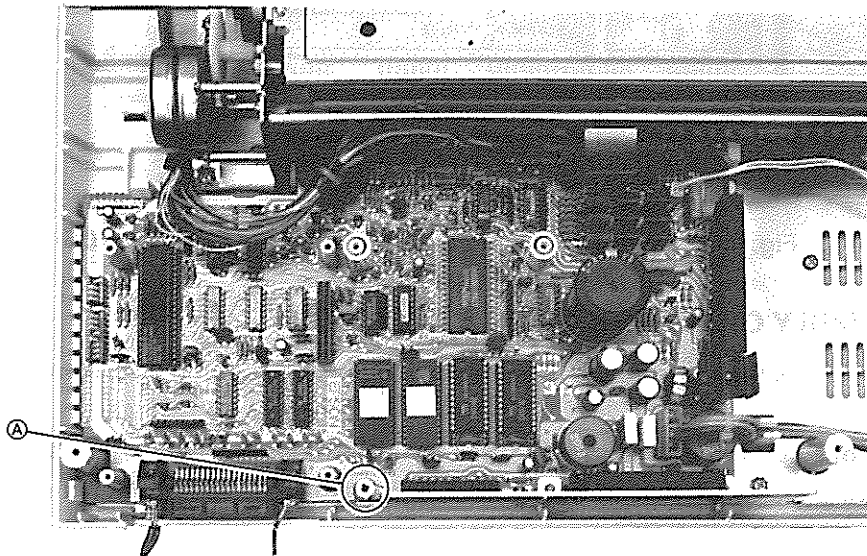

Fig. 4-9. Remove of the Board Junction Screw
4.3.2.2 Removal of FXMB Circuit Board (Figs. 4-9 and 4-10)
- Step 5: Remove the board junction screw ① of the FXMB circuit board if printer model is the FX-85 or FX-185/105. (See Fig. 4-9)